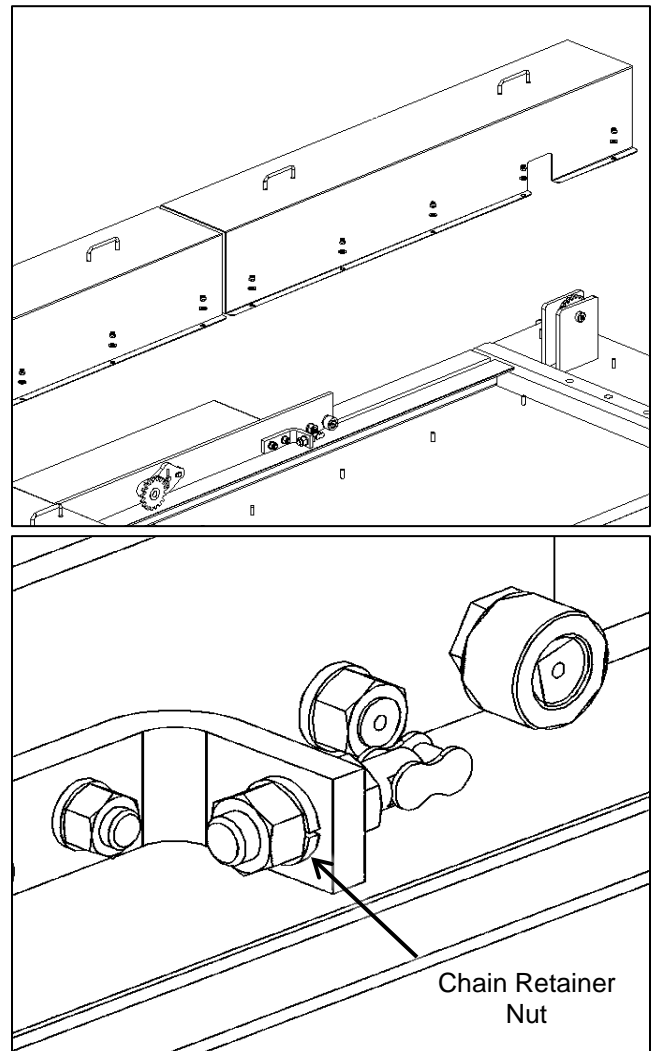

Figure 3: (Left) Chain Guard Removal, (Right) Chain Removal
2. Remove the chain guards from the top plate to allow access to the chain connection plates (**Figure 3**).
3. Disconnect the chains from the chain connection plates (**Figure 3**).
chain retention bolts (**Figure 3**). To access the tensioner sprockets, remove the chain guards from the unit. Adjust the sprocket arm until the chain is tensioned properly, and replace the chain guards.